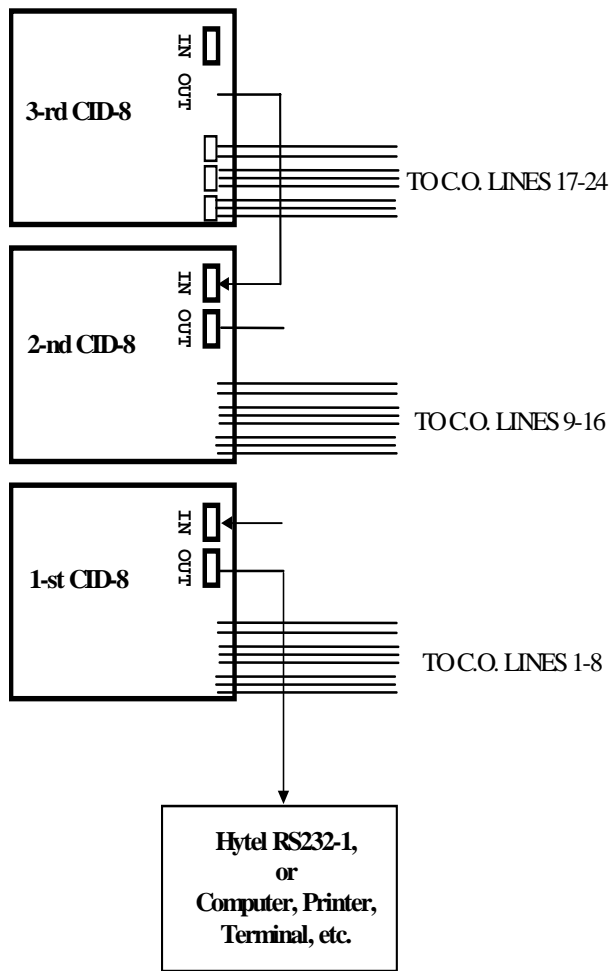
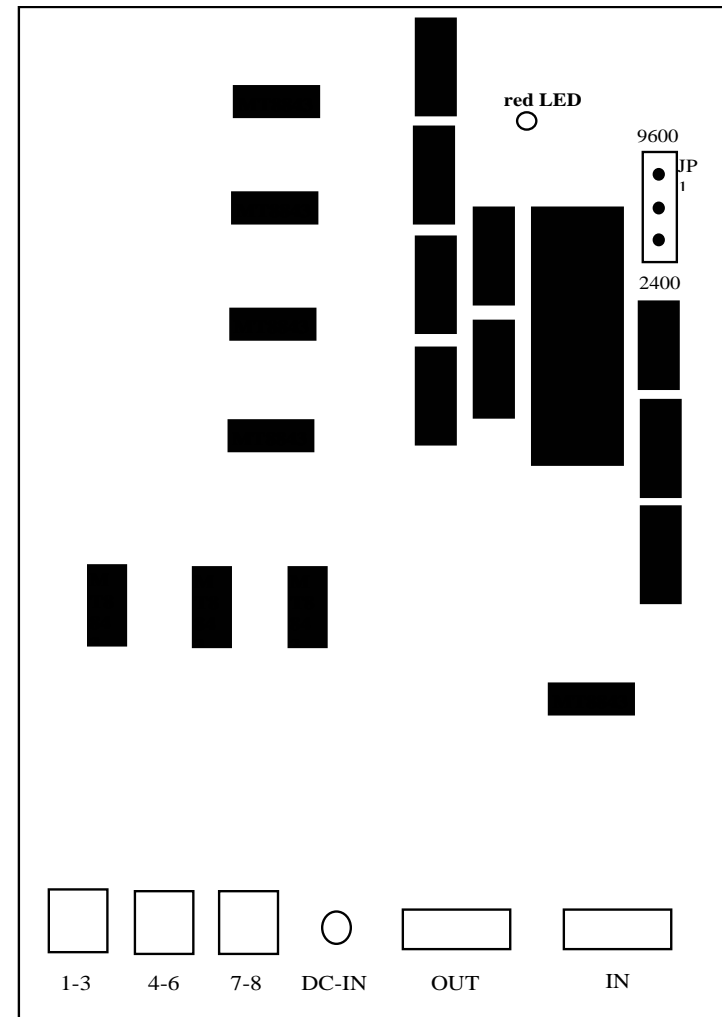

Fig 2. Example of multiple CID-8 connections.
Fig. 1 CID-8 PCB layout diagram
- 2.7.2. When power is applied, the red LED in the CID-8 (as shown in Fig. 1) will flash to indicate that the unit is working.
- 1.1.4 There are two DB-9 connectors, labelled "IN" and "OUT" as shown in Fig.1. These connectors are used for RS-232C asynchronous serial communication and can enable up to 12 CID-8's to be connected together.
- 1.1.5 There are three 6-position RJ12C connectors, named with "1-3", "4-6" and "7-8" located in the CID-8 as shown in Fig.1. These are used to directly connect to incoming telephone lines. The first 2 ports provide 3 telephone line connections and the last one provides 2 telephone line connections.
- 1.1.6 There is a 3-position jumper named JP1 in the CID-8 as shown in Fig.1 for selecting the baud rate of RS-232C asynchronous serial communication. The baud rate is selectable between 9600, 4800 and 2400. The other serial parameters are set at 1 start bit, 8 data bits, 1 stop bit and no parity bit and cannot be changed.
- 1.1.7 The power connector, labelled "DC-IN" (see Fig.1) provides DC power input connection. A 240V to 12V power-pack is supplied with each CID-8. The accepted range of DC power input is from 12V DC to 35V DC and polarity is not important. Do NOT use the system 24V auxiliary terminals as a power-source for the CID-8.
This is a male DB9 connector, labelled with "OUT" in CID-8 as shown in Fig.1. In single CID-8 configuration, it is connected to the KSU or another DTE device for message output. In multiple CID-8 configuration, it is connected to RS-232C input of previous CID-8 for non-first CID-8 as shown in Fig.2.
This is a female DB9 connector, labelled with "IN" in CID-8 as shown in Fig. 1. and in a single CID-8 configuration, is not used. In multiple CID-8 configuration, it is connected to RS-232C output of next CID-8 for non-last CID-8 as shown in Fig. 2.
- 2.3.1 The data speed must be set to 2400. A 3-position jumper, JP2, located in the CID-8 as shown in Fig.1 is used to select the baud rate of RS-232C asynchronous serial communication. JP2 is set for a baud rate 2400 bps as shown:
- 2.5.3 In Fig.2, there are 3 CID-8’s connected together to provide 24 lines service. Up to 12 CID-8’s can be connected together to share a DTE device. The DTE device is always connected to first CID-8. The corresponding line numbers in the output message as shown in section 1.2 for each CID-8 are listed as follows.